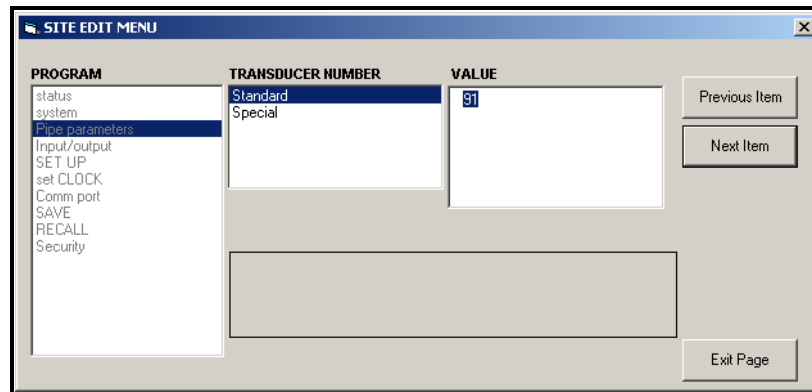

Figure 38: Pipe Parameters Option in Site Edit Menu
- a. Highlight and double-click on the desired option in the left pane. Figure 38 shows the first entry (Transducer Number) in the Pipe parameters option. The title above the center pane lists the current entry, while the center pane displays the available selections for that entry.